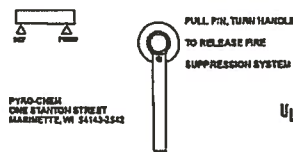

Figure 2-5. Mechanical Control Head.
The Model MCH3 mechanical control head is a fully mechanical control head which can be connected to the PCI-15/17/25s/35/50s/70 cylinder valve. This control head will support a fusible link detection system, a remote mechanical pull station (Model RPS-M), and a mechanical or electric gas shut-off valve. A micro switch (Model MS-SPDT, MS-DPDT, MS-3PDT, or MS-4PDT) can be ordered separately and field installed. It is equipped with a local manual control handle that allows for mechanical system actuation. Operation of the local manual control requires removing the pull pin and rotating the handle clockwise. The Model MCH3 control head can actuate a maximum of five (5) cylinders. See Figure 2-5.